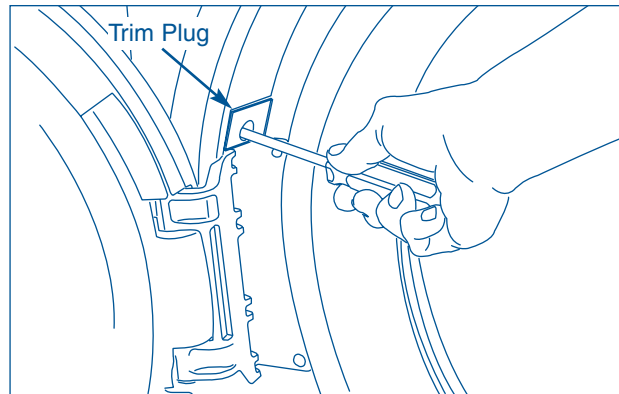

Figure 4-1.
2. Using a #2 square bit screwdriver, extract and save the trim plug and long course thread, panhead screw. (See Figure 4-1)